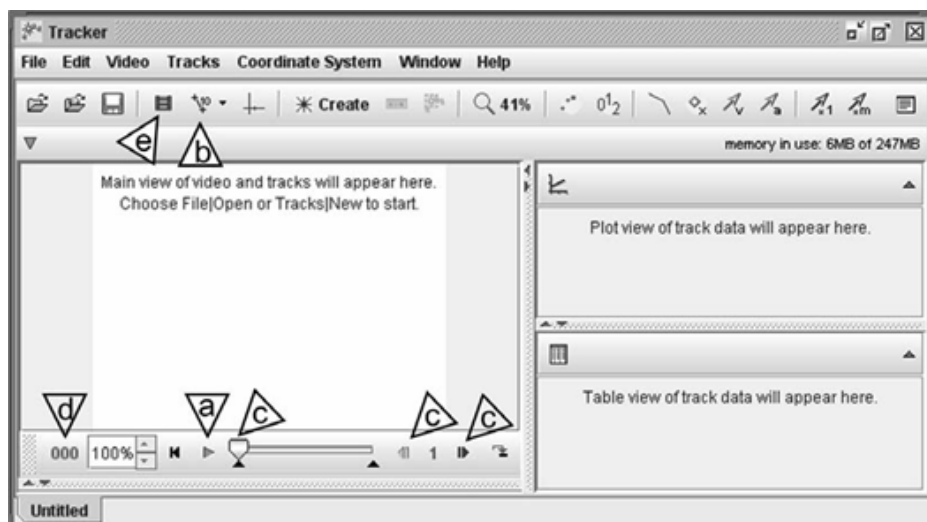

Figure 2: The Tracker program window. Some of the control buttons used in the experiment are marked - a, b, c, d and e.
3. Play the video in the program, at [a] in **figure 2**. Repeat for the other videos and select the best video for subsequent analysis.
4. Create a new calibration tape in the program - at [b] in **figure 2**. Drag the tape's endpoints to the ends of the ruler in the video. Change the length of the tape to the length of the ruler (click on the value next to the tape, type in the length of the ruler and hit enter). Note that you can use the mouse wheel to zoom in or out of the video. The display can also be dragged around after you have zoomed in. The tape is now calibrated and can be used to measure distances and directions in the video.
1. Step through the frames using the three [c] controls indicated in **figure 2** and locate two frames just before the collision in which the striker is seen. Note that the frame numbers are indicated at [d].